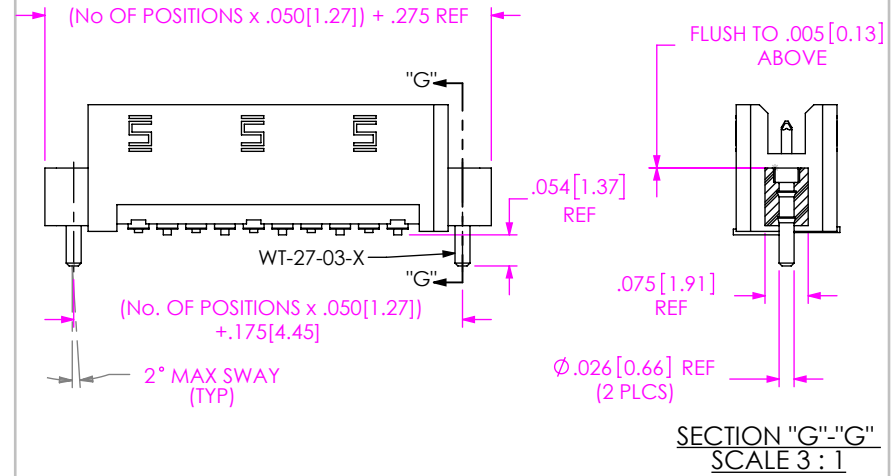

FIG 8
** -SN: SOLDER NAIL (USE WT-27-03) (NOT AVAILABLE WITH -A, -LC, OR -WT OPTIONS) (SEE FIG 8, SHEET 3)